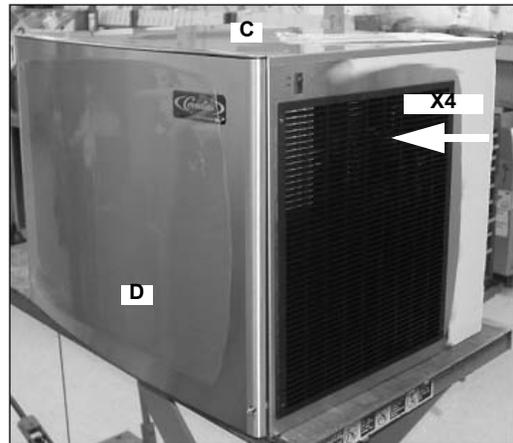

Figure 58.
68. Replace the top cover (C) and the front panel (D). Attach the louvered panel with (4) black, hex head screws (Figure 58).